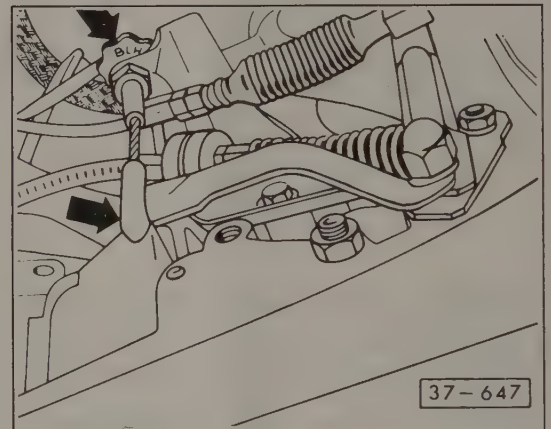

Fig. 4-4. Accelerator cable adjusting nut (top arrow) and accelerator cable end attachment to operating lever (bottom arrow).
1. Place the selector lever in **P** and set the parking brake. Loosen the adjusting nut on the transmission's operating lever and disconnect the accelerator cable from the lever. See Fig. 4-4.
2. Loosen the accelerator pedal cable adjusting nut and detach the cable from the operating lever. See Fig. 4-4 above.